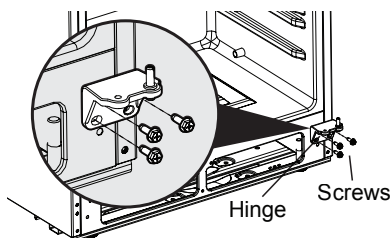

Figure 6
6. Remove three screws that hold the bottom hinge to lower end of cabinet. (See Figure 6.)